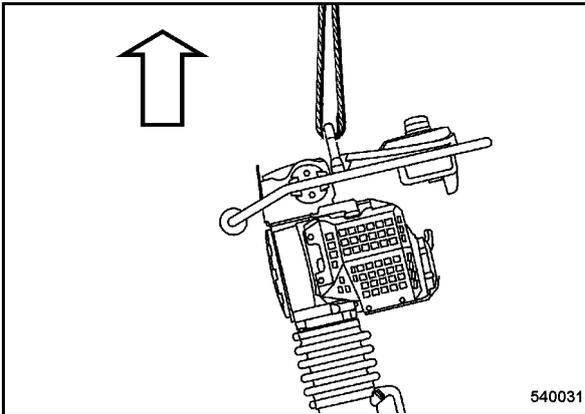

Fig. 31
- For loading the machine attach the lifting gear only to the cross strut of the steering handle (Fig. 31).